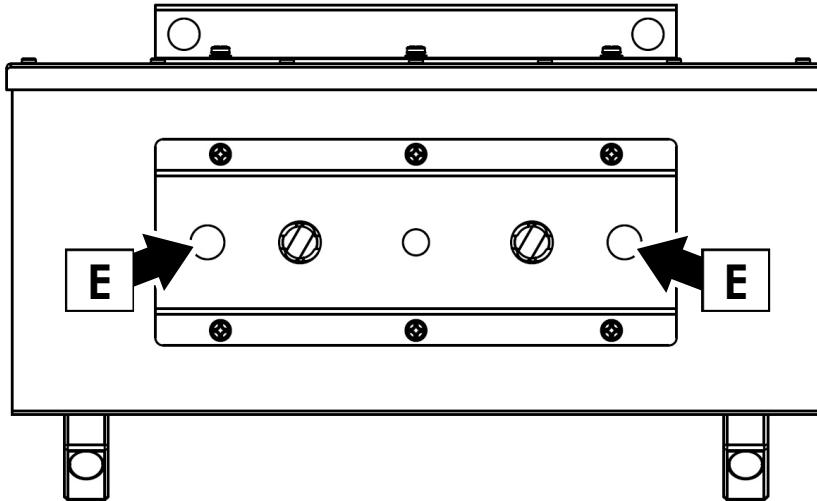

Figure 29. KNV PSU 13 mm threaded holes
2. See Figure 29. Fasten the rigging clamps to the PSU's mounting plate by passing the M12 bolts through the clamps and through the 13 mm holes **E** in the mounting plate. Install washers and self-locking nuts on the end of the bolts and tighten the bolts. The bolts must not touch the PSU's housing. Use shorter bolts if necessary.